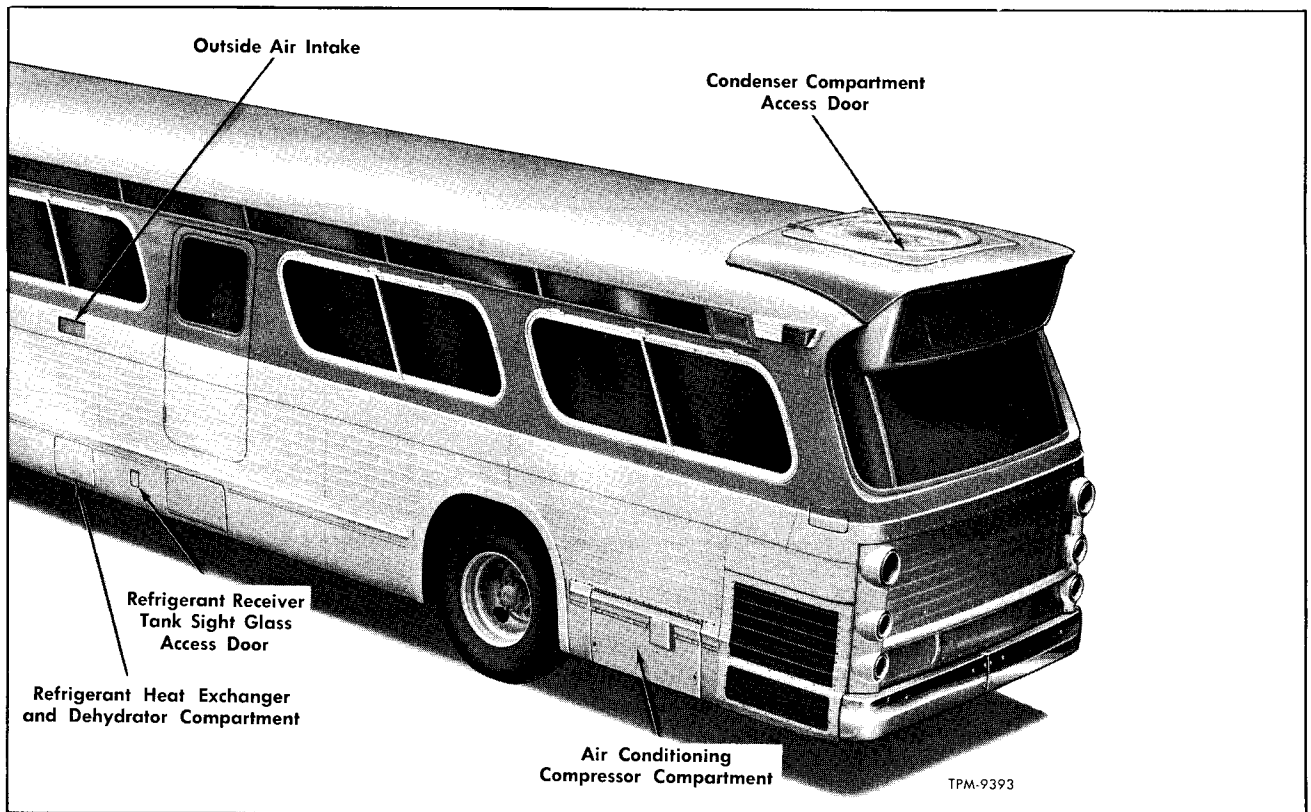
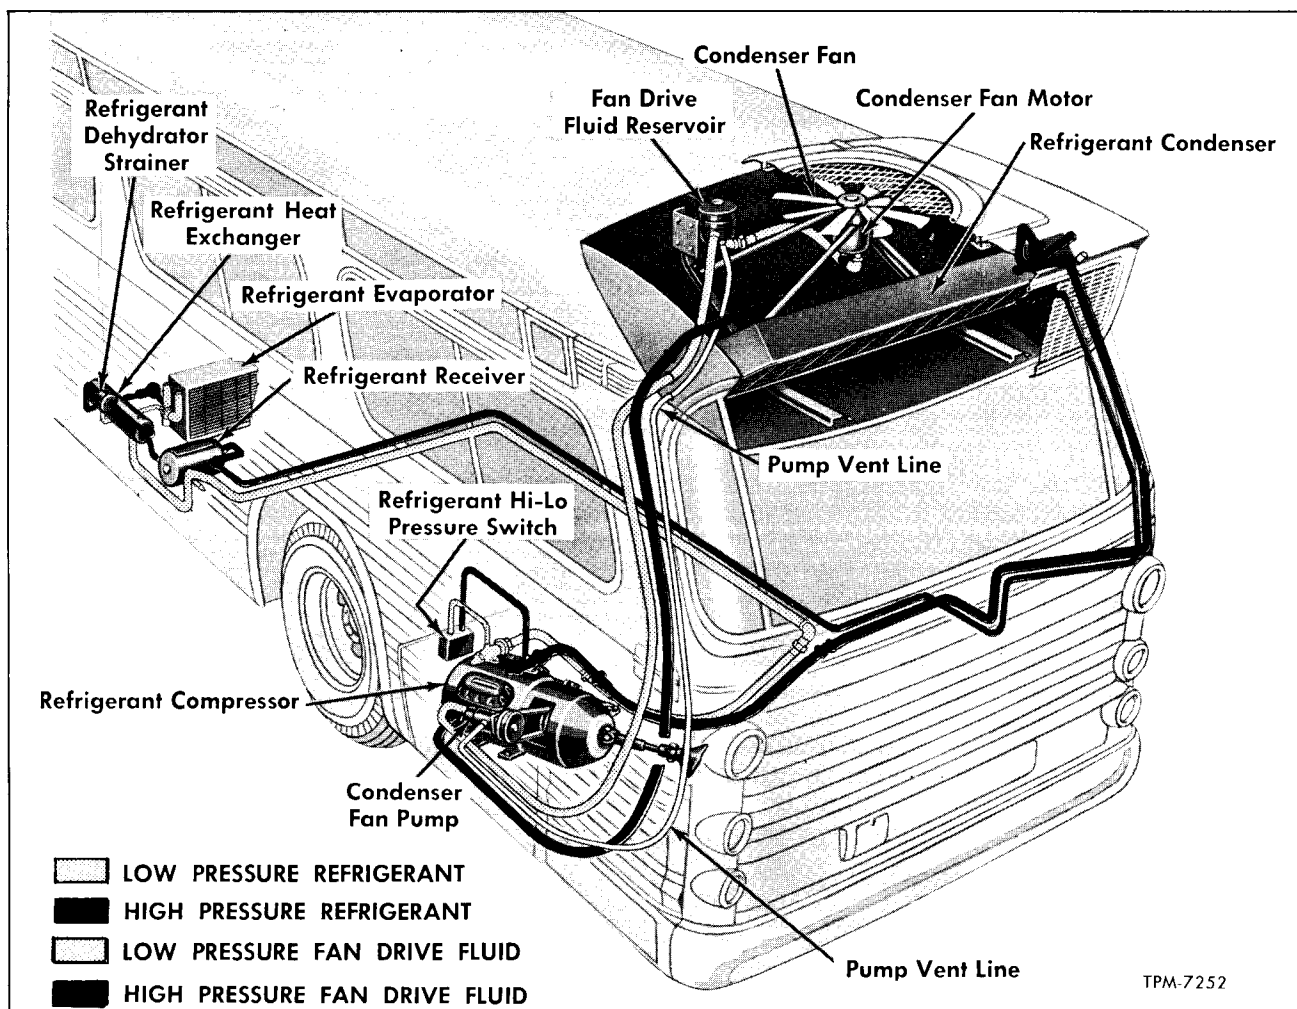

Figure 1—Access Doors to Air Conditioning Units
Figure 2—Refrigerant Lines and Condenser Fan Drive Fluid Lines
The air conditioning system units are accessible in coach through access doors shown in figure 1. System units are located schematically in coach as shown in figure 2.
Briefly, the air conditioning system is comprised of the following system and controls. Refer to figure 2.
3. A Refrigerant Heat Exchanger of tank and internal coil-type is mounted into both high pressure liquid line and low pressure gas line. Heat exchanger is accessible after opening side closure door near left center of coach (fig. 1).